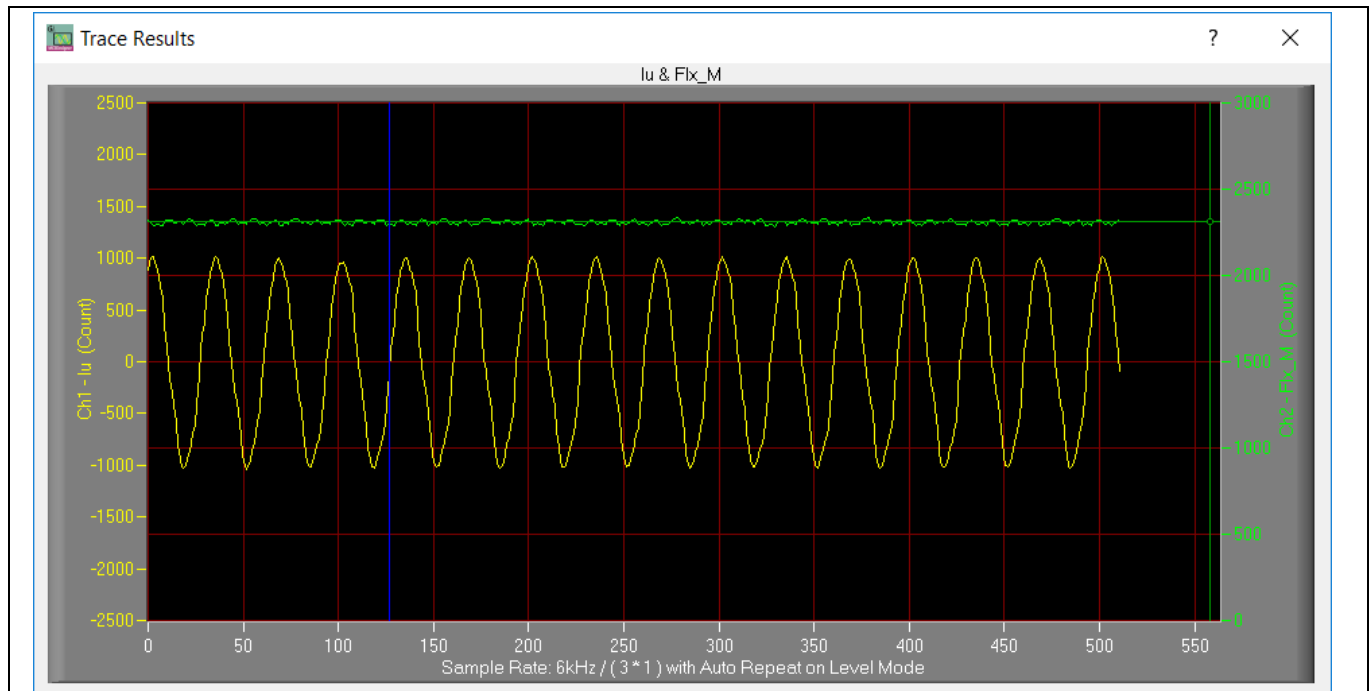

Figure 9 Trace waveform for Iu & Flx-M at 50% speed
12. Set target speed to about 50% of MAX speed, start “Iu & Flx_M” trace with “Auto Repeat on Level”. As Figure 9. Flx_M is better within the range of 2000~2500 cts (rated value is 2048), and MUST be steady and DC-like.